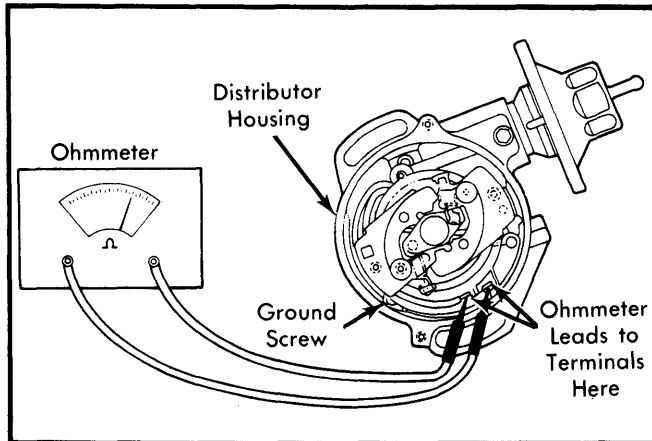

Fig. 6 Pick-Up Coil Assembly Resistance Test Points
1) Remove distributor from engine and remove ignition module from distributor housing. Inspect distributor ground screw, pick-up coil assembly wires and terminals. Measure pick-up coil resistance with ohmmeter leads connected to points shown in Fig. 6.